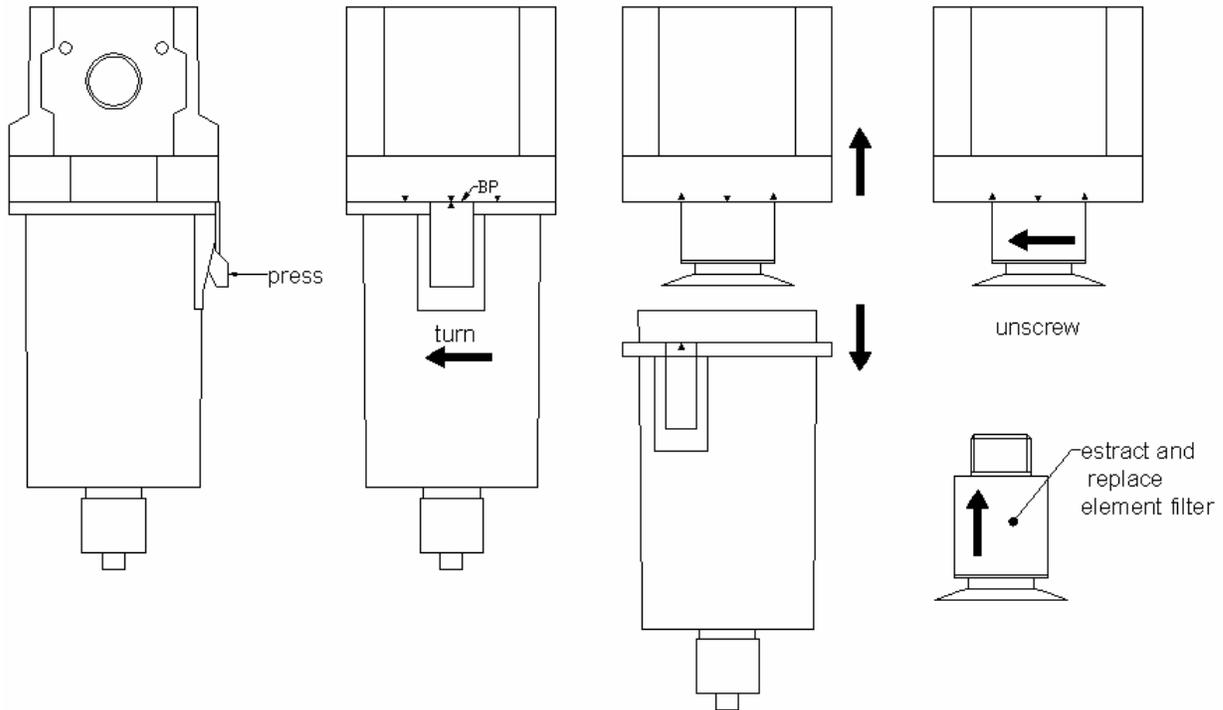

fig. 1: Pre-filter disassembling for element filter replacement.
- 8.1.1 Remove the filter bowl (Fig. 1, pos. 1) pressing on the lever and turning the bowl counter-clockwise until the arrow are aligned.
- 8.1.2 Unscrew the filter element base and remove element (Fig. 1, pos. 3).